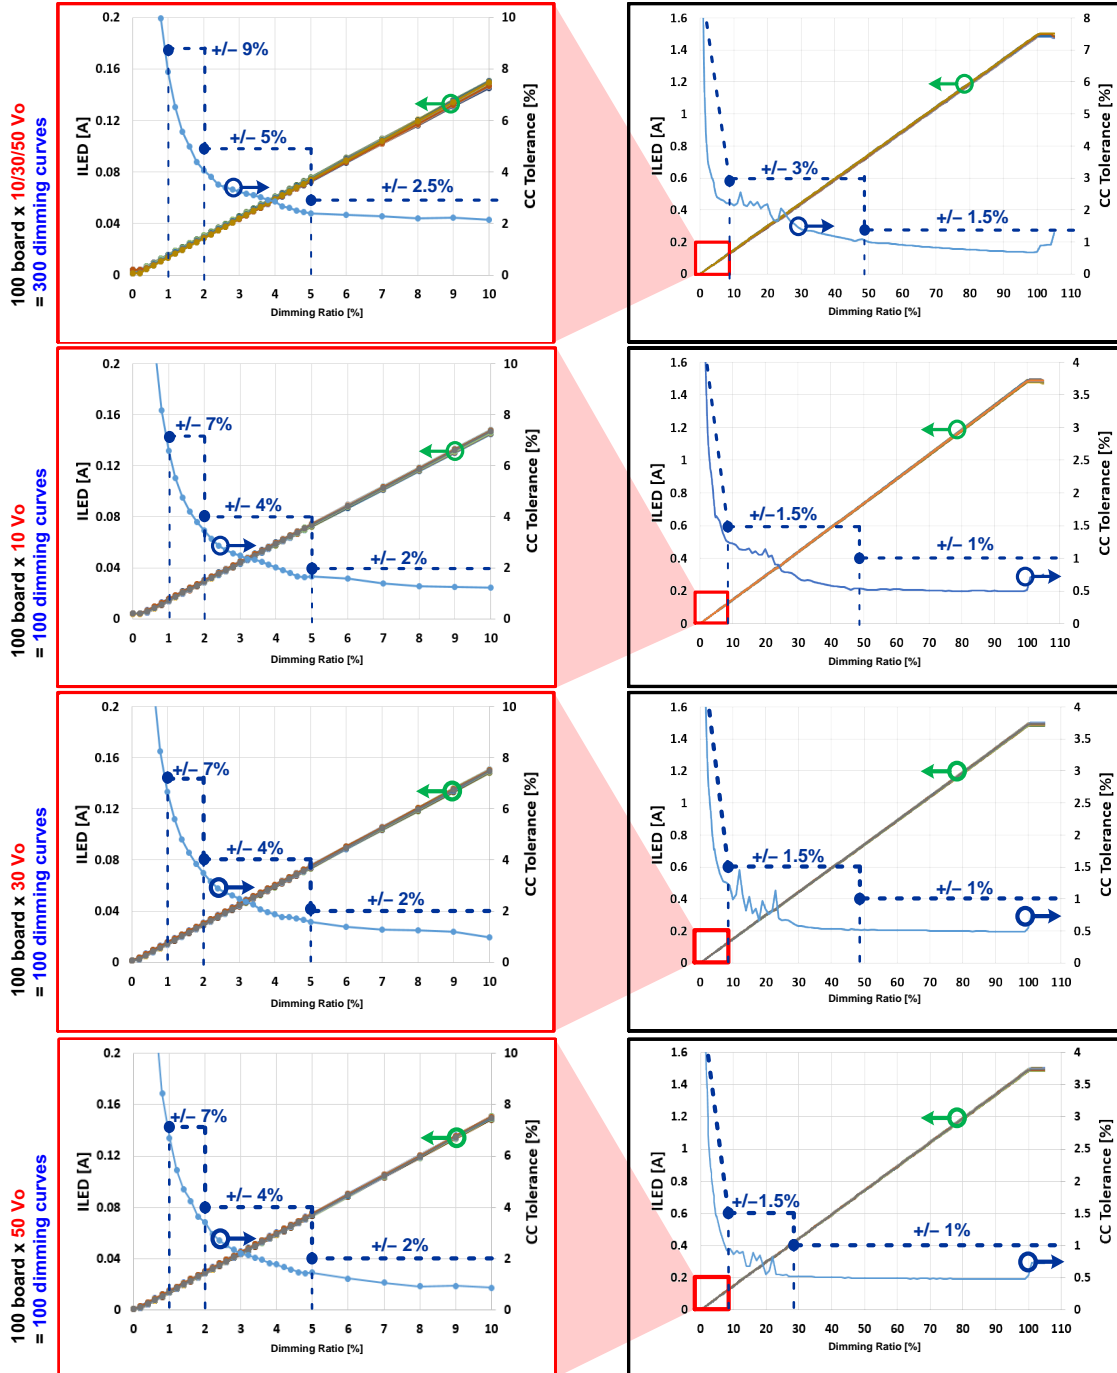

Figure 8. NCL35076LED1GEVB Dimming Curve and CC Tolerance
Figure 8. shows dimming curve linearity and Constant Current (CC) tolerance of 100pcs system boards. The test condition is variable output voltage (10, 30, 50 V) in 60 V_{DC} input and dimming range is 100% to 0%. The dimming ratio is calculated by $(V_{DIM}-0.25)/2.25 * 100$ [%].